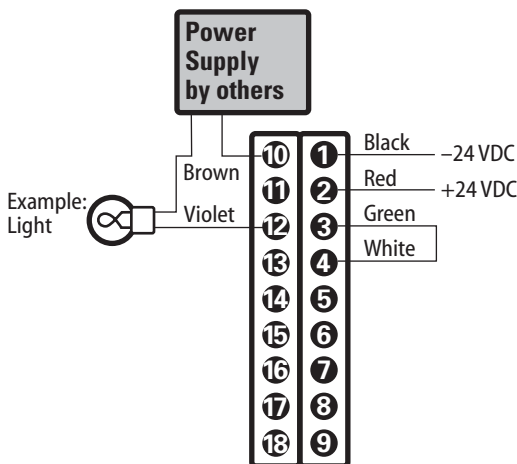

Figure 10 Connecting a secure relay lamp
- Connect the BROWN and VIOLET wires to an indicator (such as a light) as shown in Figure 10.